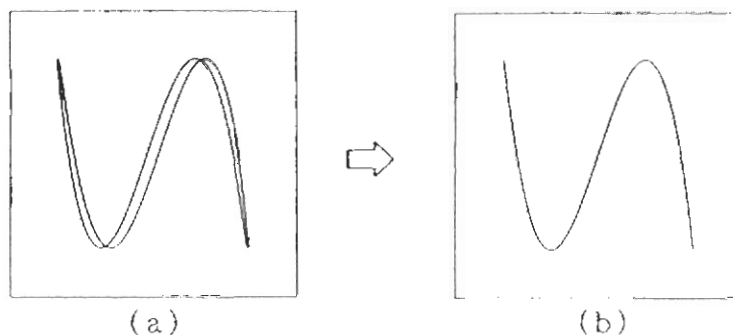

Fig. 12-3 Pilot Signal and TRI Subcarrier Phase Calibration
Adjust TRI SUBCARRIER PHASE ④⑥ to change the display from Fig. 12-3 (a) to that of (b).